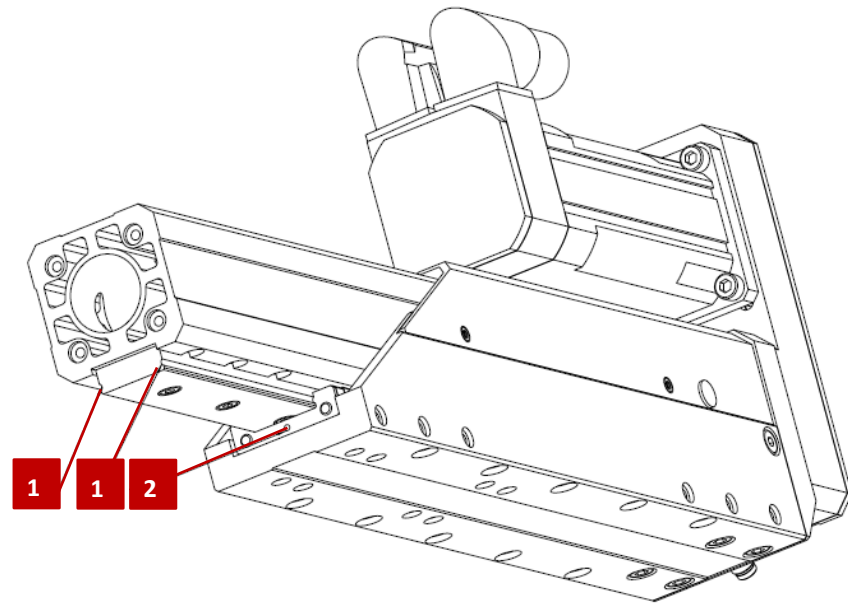

Fig. 13 Telescope spindle axis - grease nipple linear guide
4. Lubricate the guideways of the linear guide (Fig. 13, 1) so that an even lubricating film is applied.